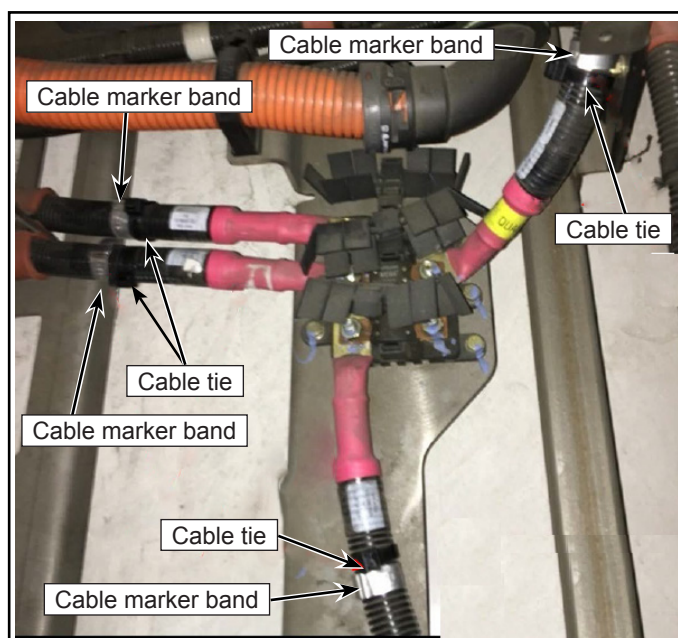

Figure 5 - Installation of Cable Ties
- 1.6. Install cable ties in front of relocated cable marker band to prevent it sliding towards terminals (see Figure 5).